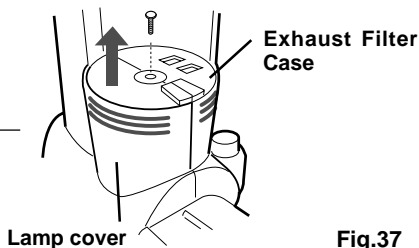

Fig.37
- 2 Unscrew the center screw. (Fig.37)
- 3 Lift the lamp cover. (Fig.37)